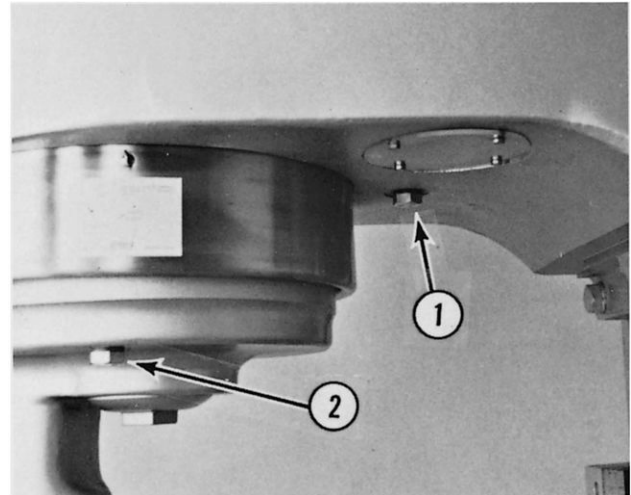

Fig. 6-2
- 1) To drain: Remove oil drain plug (1, Fig. 6-2) and drain all old oil.
- B. Remove the planetary oil drain plug (2, Fig. 6-2) and drain the old oil.